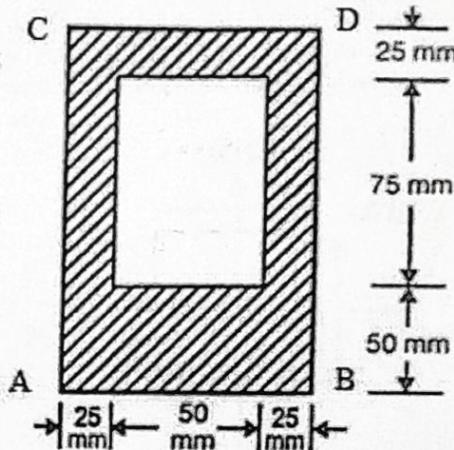

Figure 1
- Q2 a) Find the area moment of inertia for the cross-section shown in figure 1. 05M